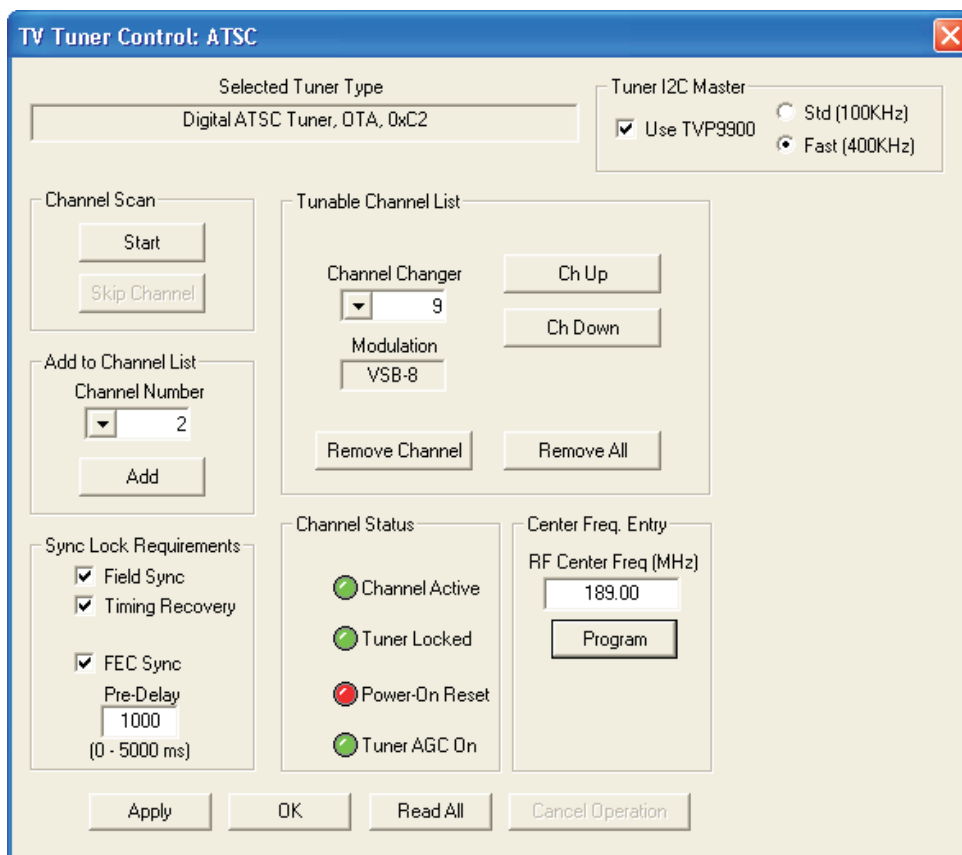

Figure 5. TV Tuner Control for ATSC
9. In the TV Tuner Control window, as shown in Figure 5, select a channel from the “Add to Channel List” drop-down box.